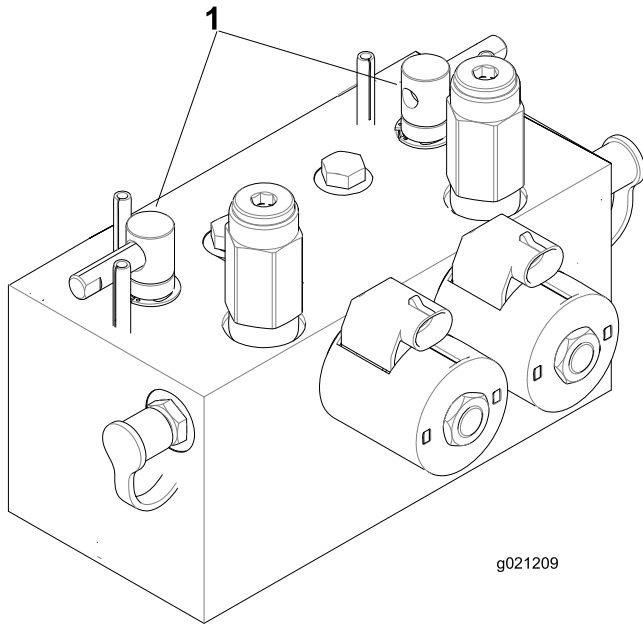

Figure 93
2. Unlock and raise the seat to expose the backlap levers (Figure 93).
5. Select either front, rear, or both backlap levers to determine which units to backlap (Figure 93).